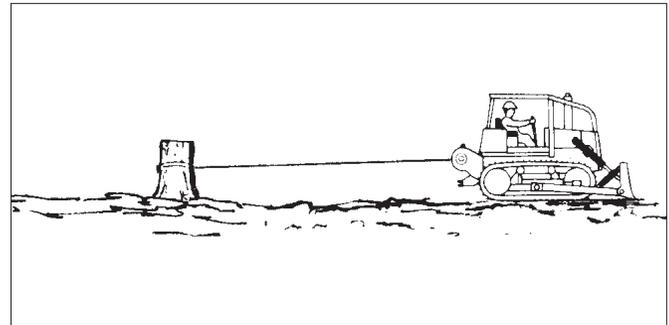

Figure 16 - Moving a Disabled Vehicle (Step A)
A. A tractor or skidder often travels in areas where traction conditions are bad. A vehicle equipped with a winch can be used to remove itself from mud or other areas where it cannot move using only the drive wheels or tracks. See Figure 16. Use the following procedure: